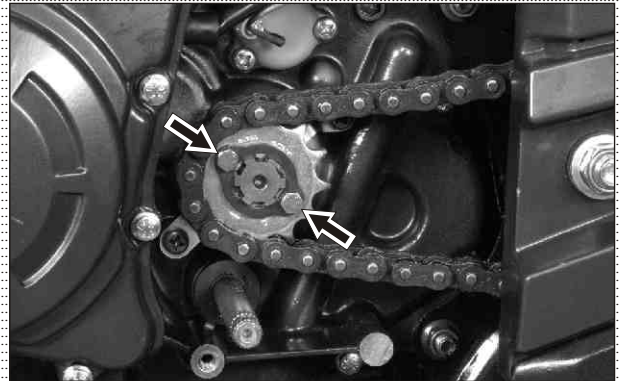

Fig. 3.35
- Remove hexagonal screw (M5x10 - 2 nos) from the lock plate engine sprocket. (Fig. 3.35)